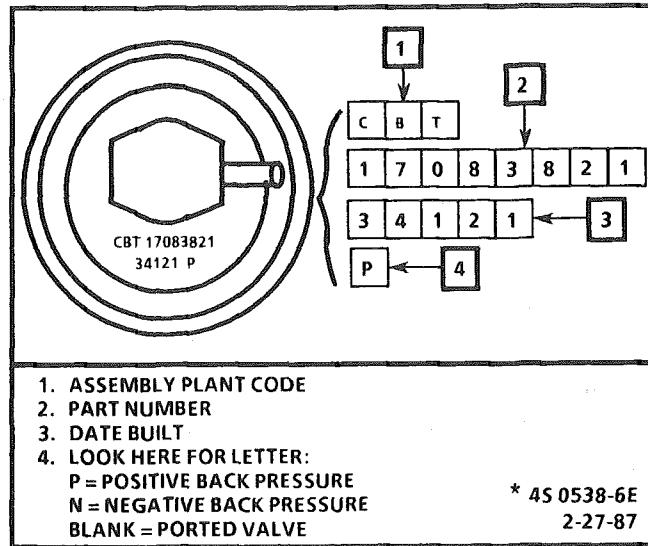

Figure C7-4 - EGR Valve Identification
- Negative backpressure EGR valves will have an "N" stamped on the top side of the valve after the part number (Figure C7-4).